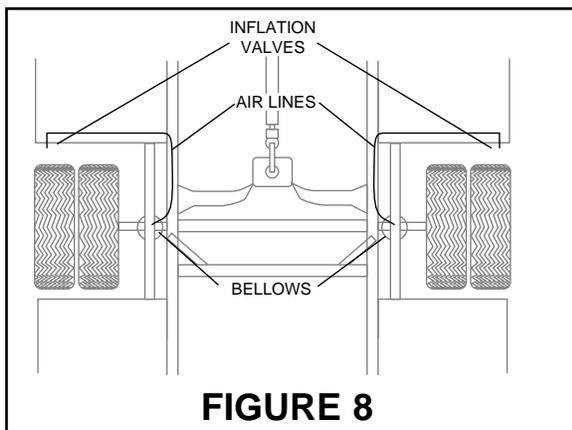

FIGURE 8
A. Select locations on the vehicle for the air inflation valve (Figure 8). The location chosen should provide protection so the valve will not be damaged but be accessible for the air inflation chuck. Recommended location is in the wheel well or lower body ahead of rear wheel. One on each side provides ease of filling, checking and measuring body height to compensate for side to side lean and front to rear sag.
G. Route the air line from the bellows to the pre-determined inflation valve location. Insure that it is protected from the direct heat of the exhaust system and kept away from sharp edges. Caution should be taken not to kink or bend the air line. Secure along frame with the nylon ties supplied with this kit (Figure 8).